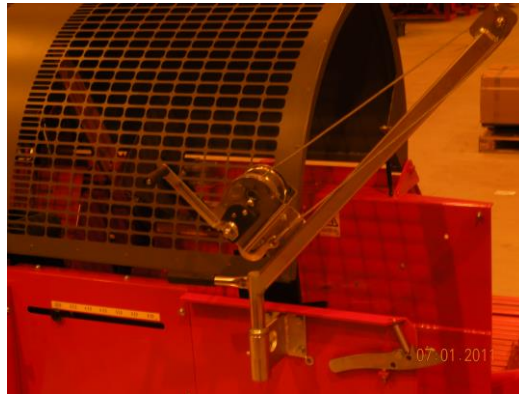

Figure 3. Installing the lifting winch for the splitting blade
1. Connect the lifting winch of the splitting blade to the link bushing on the side of the splitting groove, as shown in Figure 3.